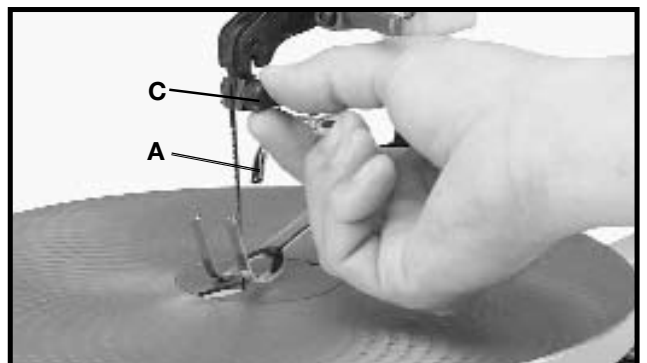

Fig. 29
2. Turn locknut (C) Fig. 29, clockwise to tighten and counterclockwise to loosen the clamping action of the blade holder. Very little movement of locknut (C) is necessary.